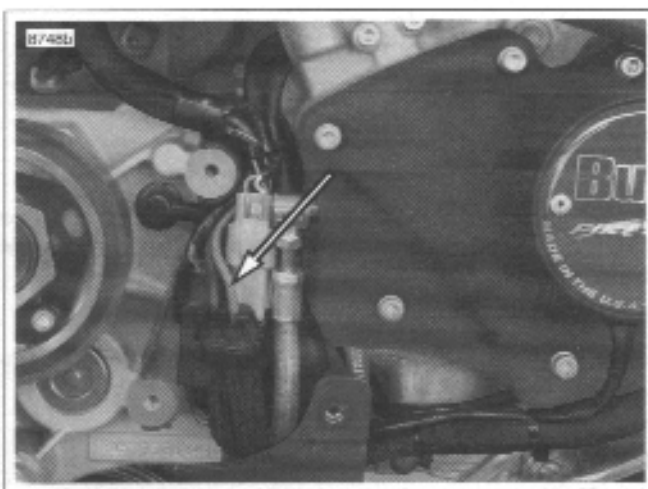

Figure 7-25. Positive Regulator Cable (red wire)
- b. See Figure 7-25. Place load tester induction pickup over positive regulator cable.
1. See Figure 7-25. After removing the load, read the load tester voltage meter.